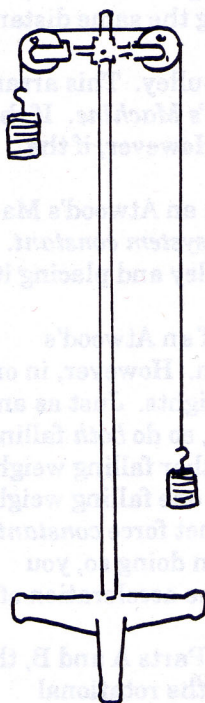

Figure 9.1
Step 1. Set up a pulley system similar to that shown in Figure 9.1. Clamp the pulley to the table at least 50 cm from the floor. Use a piece of thread about 10 cm longer than the distance from the top of the pulley to the floor. Attach the thread to each mass hanger. Place a total of about 100 grams of mass on one hanger, m_1 , with one 50-g, one 20-g, and six 5-g masses. Place *slightly* more (such as 5 grams) on the other hanger, m_2 . This arrangement will enable you to transfer mass from m_1 to m_2 and thereby change the *net force* without changing the *total mass* of the system. A small amount of masking tape may help stabilize the masses. Record m_1 and m_2 (don't forget the mass of the mass hangers!) in Data Table 9.1.